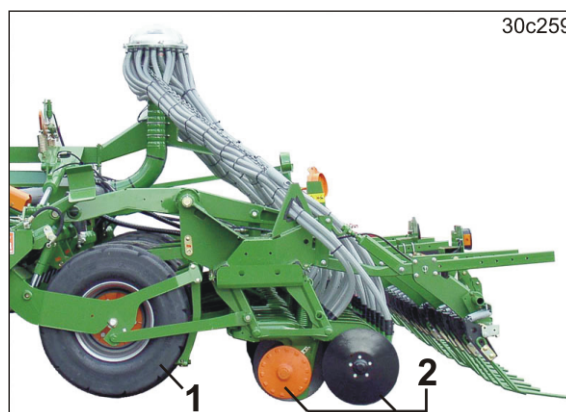

Fig. 77
The tapered ring tyres (Fig. 77/1)
- assume depth guidance of the PacTeC shares (Fig. 77/2) for uniform seed depositing